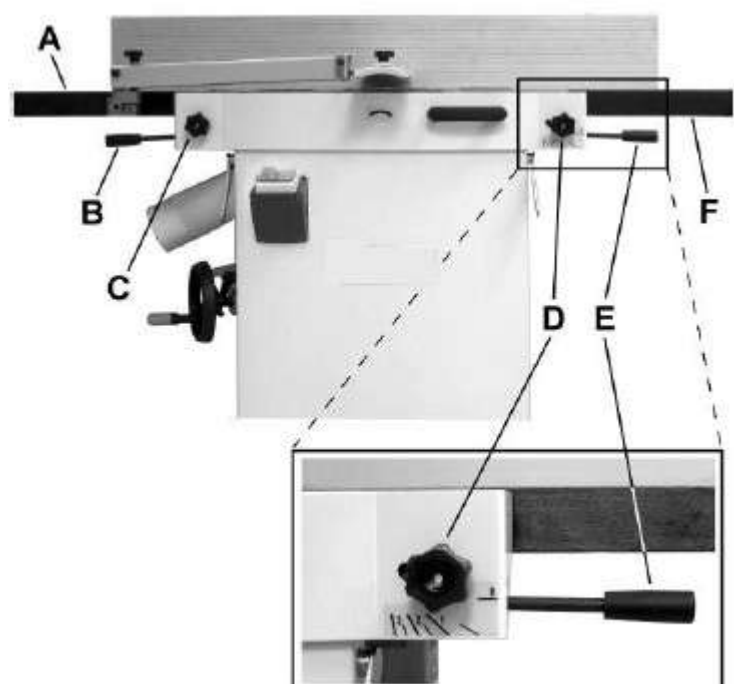

Figure 6
Referring to Figure 6:
2. Loosen the lock knob (A) and slide the cutterhead guard (B, C) to clear the table.
5. Place a straight edge (D) across the front of the outfeed table (F) and extending over the infeed table (G). Note the position of the infeed table (G). Note the position of the straight edge in Figure 6 with respect to the fence (H).
2. Remove the cutterhead guard (B, Fig. 6).